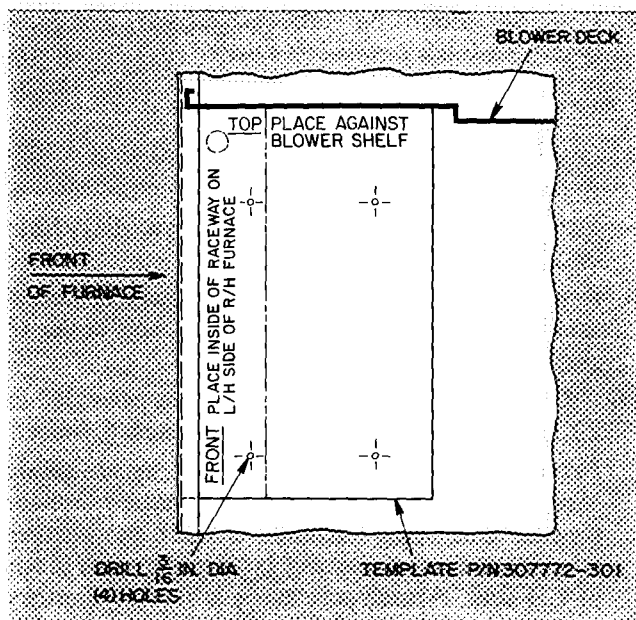

Fig. 3 — Positioning Template in RH Furnace
2. Position twinning control box template under blower deck and against front edge of LH side of RH unit as shown in Fig. 3. If unit has sound insulation, cut away insulation in area of template. Centerpunch and drill four 3/16-in. holes in locations shown on template.
9. Position twinning control box in blower compartment of RH furnace as shown in Fig. 3. Mount control box with blunt-tip screws provided in kit.